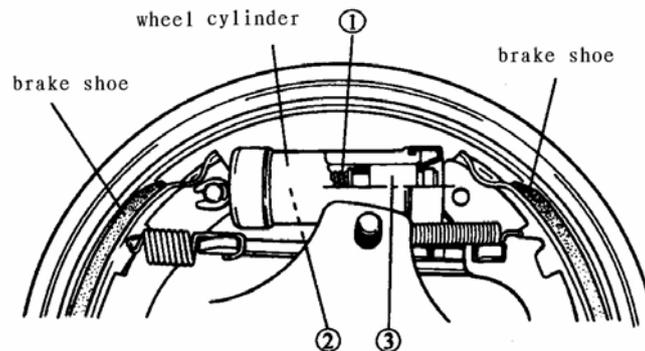

FIG.16-9
In each rear wheel cylinder, pistons, piston cups and a piston spring ① are installed. When the brake pedal is depressed, fluid pressure is applied to the inside of the chamber on the piston②、③.(FIG.16-9)